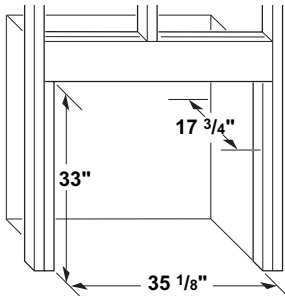
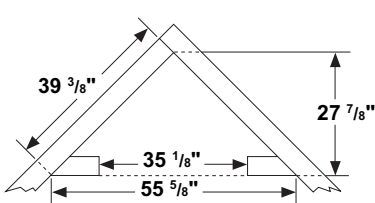

Figure 12 - Rough Opening for Installing in Wall
Figure 13 - Rough Opening for Installing in Corner
1. Frame in rough opening. Use dimensions shown in Figure 12 for the rough opening. If installing in a corner, use dimensions shown in Figure 13 for the rough opening. The height is 33" which is the same as the wall opening above.